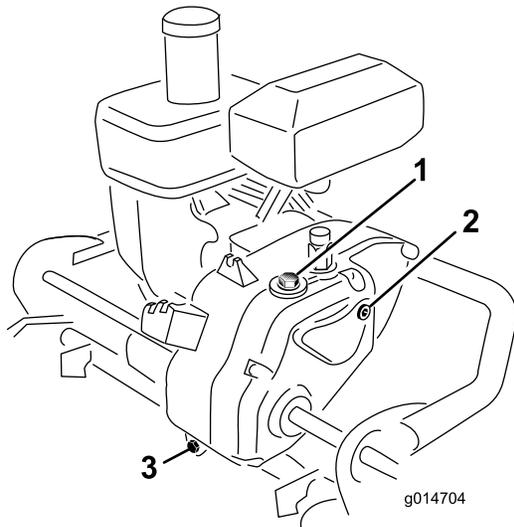

Figure 34
2. Remove the drain plug from the rear of the transmission (Figure 34).
3. Push down on the handle and tip the machine back. Remove the check plug from the right-hand side of the transmission (Figure 34).
6. Remove the fill plug from the top of the transmission (Figure 34). Do not remove the vent pipe.